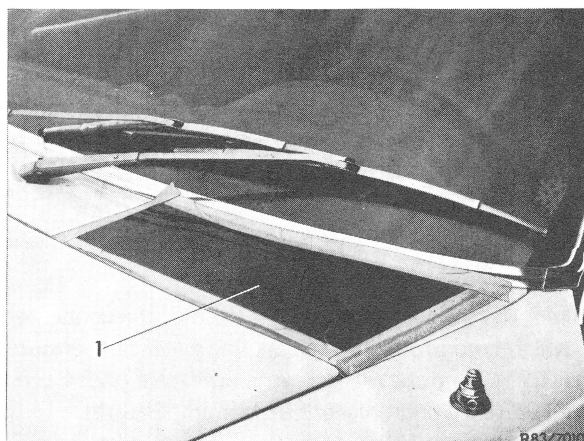

Figure 1
- 2 Cover fresh air intake grille at left and right in front of windshield (Fig. 1).